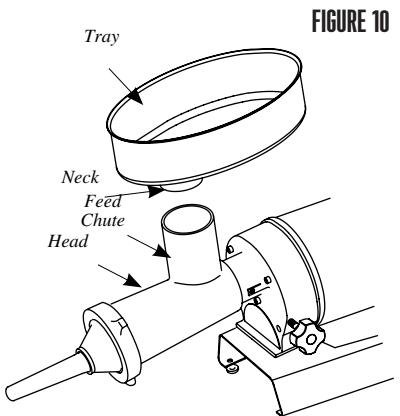

FIGURE 10
7. Insert the neck of the Tray into the Feed Chute (FIGURE 10).
8. NEVER operate Grinder without the Tray secured in place (FIGURE 10).